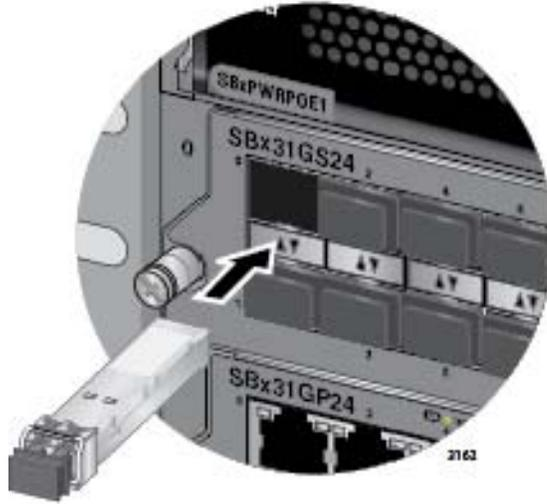

Figure 84. Inserting an SFP Transceiver in the AT-SBx31GS24 Line Card
- Slide the transceiver into the slot until it clicks into place, as shown in Figure 84.